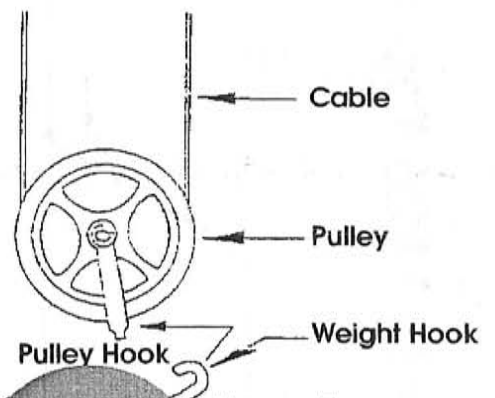

Figure 5
4. Make sure that each pulley rides smoothly on its cable. See **Figure 5**